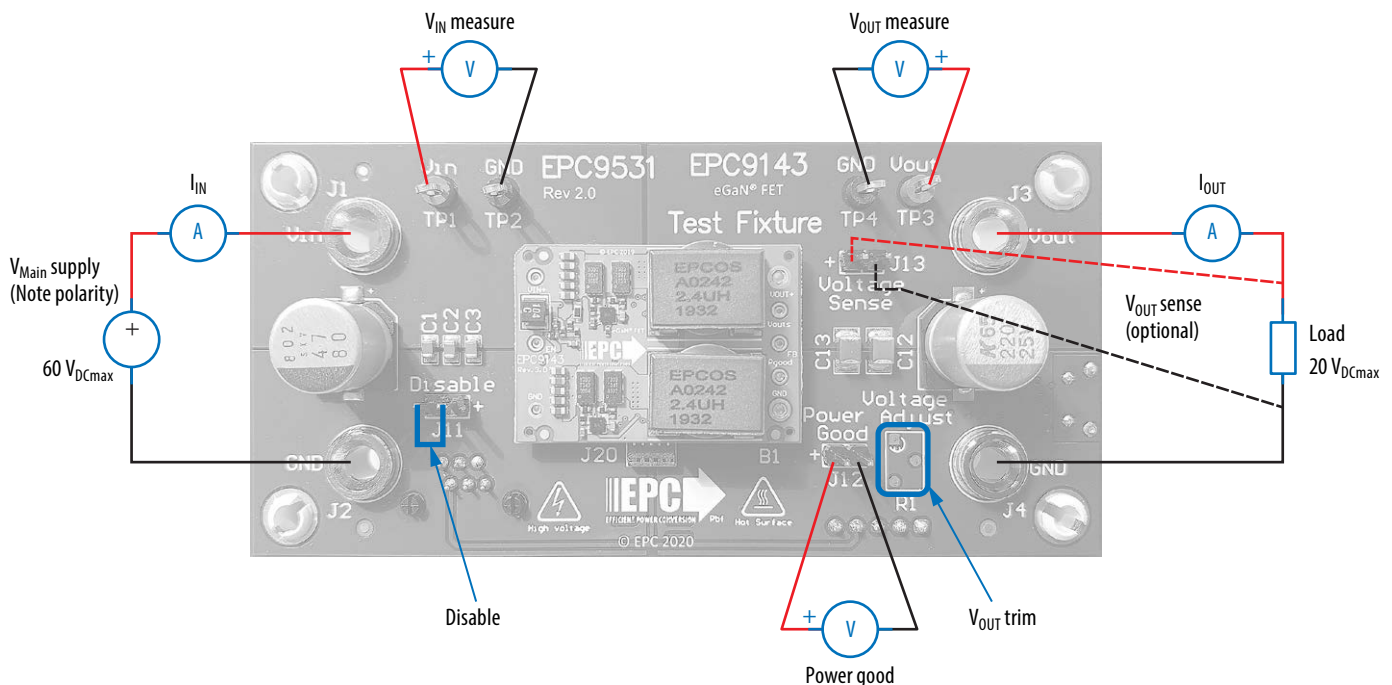

Figure 1. Example measurement setup: Top view of EPC9531 with EPC9143 mounted
Figure 1 shows an example configuration and measurement setup.
2. With power off, connect the power supply, load, and multimeters according to figure 1:
- d. (Optional) Vout sense (J13) to load terminals, shown as dashed lines in figure 1.